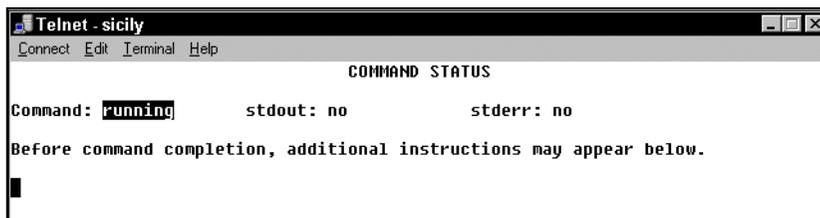

Figure 2-14 Install storage drivers — installation in progress
- d. You get the COMMAND STATUS window as shown in Figure 2-14.